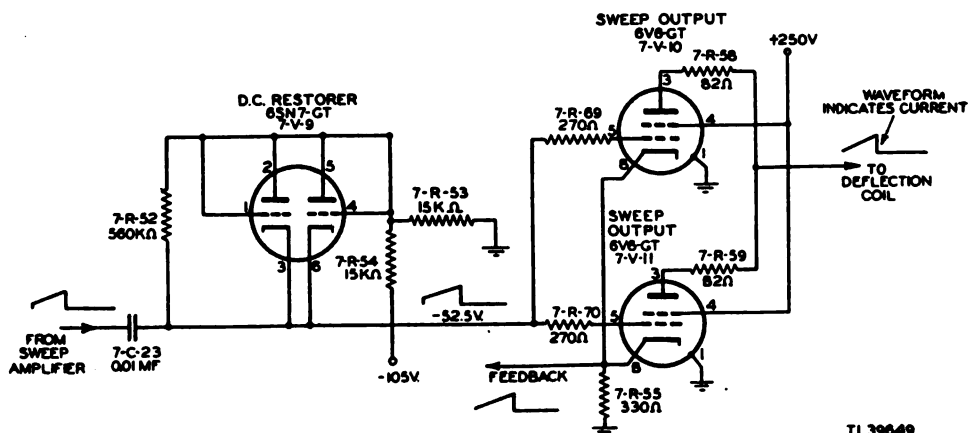

Figure 111. D-c restorer and sweep output, simplified schematic diagram.
(2) When a signal is applied to the sweep amplifier, the initial high gain of this stage causes the output voltage to rise immediately to the cut-off voltage of the tubes in the sweep output stage. The sweep output tubes conduct, and the feedback voltage is developed across the common cathode resistance 7-R-55. This voltage causes the gain of the sweep amplifier to fall to about 2, and the input wave is amplified without distortion in the sweep amplifier.
*f. D-C RESTORER.* The d-c restorer, tube 7-V-9, is a twin triode which in this instance is connected as a diode. The tube is connected between the grids of the sweep output tubes and ground (fig. 111). The design of the circuit is such that the tube conducts current on the fly-back portion of the sawtooth sweep voltage, thus causing the coupling capacitor 7-C-23 to return to its normal voltage in almost zero time. Two 15,000-ohm resistors, 7-R-53 and 7-R-54, are in series between -105 volts and ground and provide a bias of -52.5 volts on the grids of the sweep output tubes 7-V-10 and 7-V-11, during the interval between sweeps. This same bias is imposed on the plate of the d-c restorer. It is obvious, therefore, that the restorer will not conduct unless the cathode goes below -52.5 volts. The resistance of grid resistor 7-R-52 is of the order